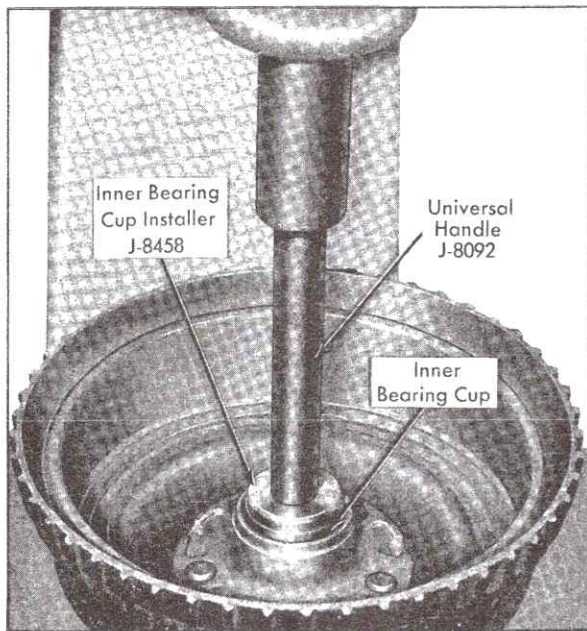

Fig. 10-15 Installing Inner Bearing Cup
4. Install inner bearing cup, using Front Hub Inner Bearing Cup Installer, J-8458, and Handle, J-8092. Use arbor press to install bearing cup in hub, Fig. 10-15.